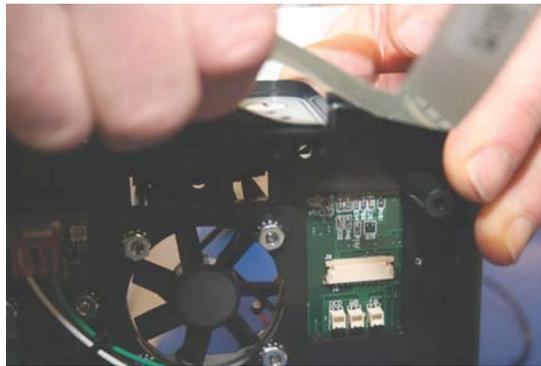

Figure 5.40
4. Remove the flex tab circuit from rib guides, and peel off the control panel / keypad from the center enclosure. (Figure 5.40)